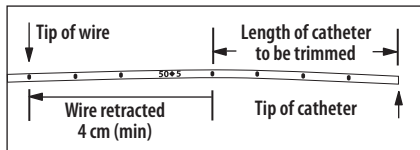

Figure 3
6. Withdraw placement wire through septum to retract wire a minimum of 4 cm behind catheter cut location (refer to Figure 3).